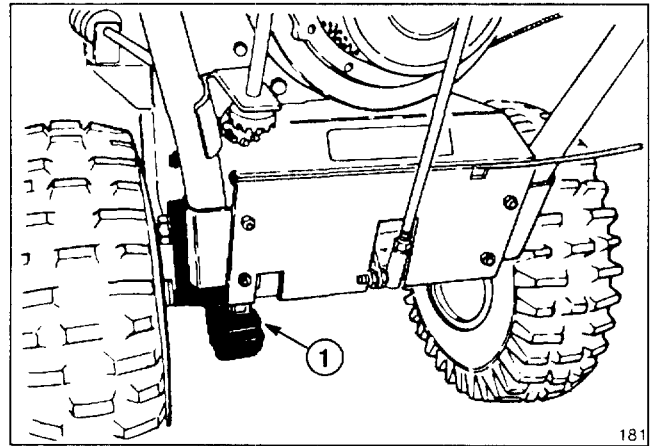

Figure 24
1. Annually lubricate drive chain with chain lubricant (Fig. 24). Wipe up any excess oil.